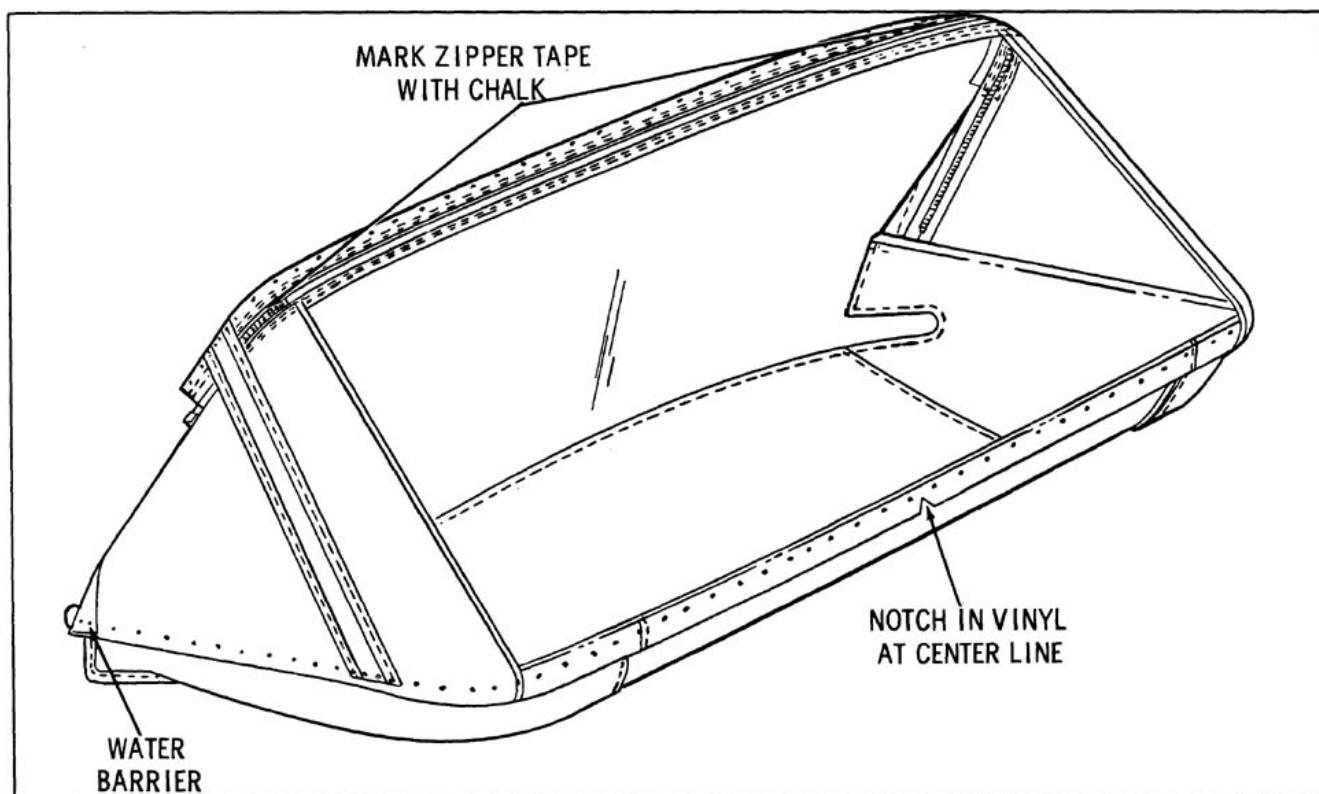

Fig. 16-149 Marking Zipper Tape
14. Using chalk, mark zipper tape at upper edge of vinyl. (Fig. 16-149)
NOTE: Notch in back curtain vinyl at lower edge indicates centerline of back curtain assembly. (Fig. 16-149). In addition, back curtain lower edge should extend 1/2" below lower edge of trim sticks.
6. Tack curtain to rear and rear quarter trim sticks. Turn forward edge of material rearward to form a water barrier. (Fig. 16-149)